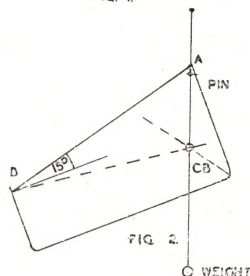

FIG. 2.
- (2) Take cotton plumbline from corners *A* and *B* and obtain *CB* (centre of buoyancy). Fig. 2.